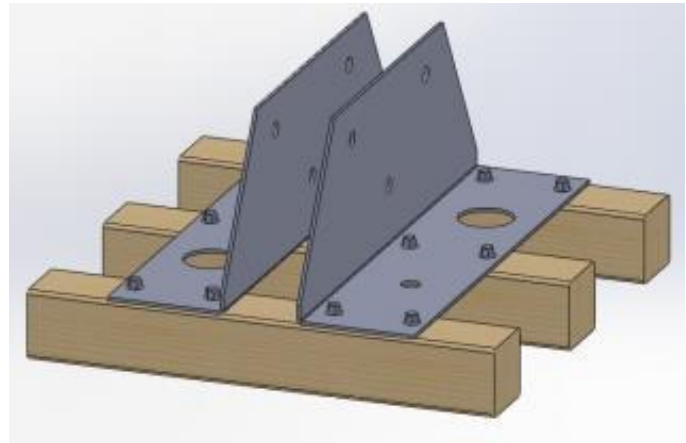

Figure 4.4 - Tower base assembly
- d) Fasten base plate angles to the pre-drilled 4x4’s with 3/8” lag screws according to Figure 4.4.